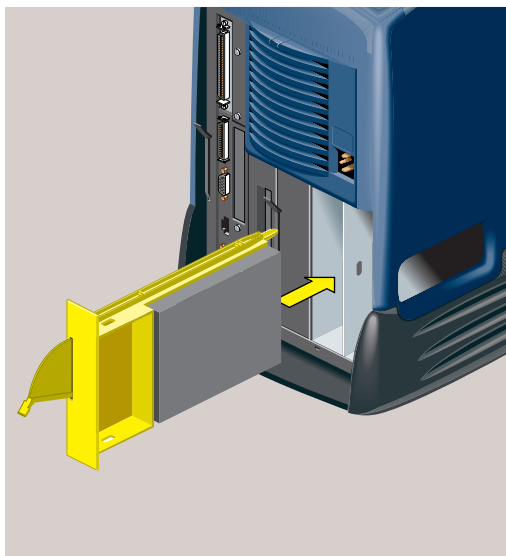

Figure 3-7 Installing the Second Hard Drive Module
7. Slide the second hard drive you are installing into the optional drive bay until the lever engages (Figure 3-7).